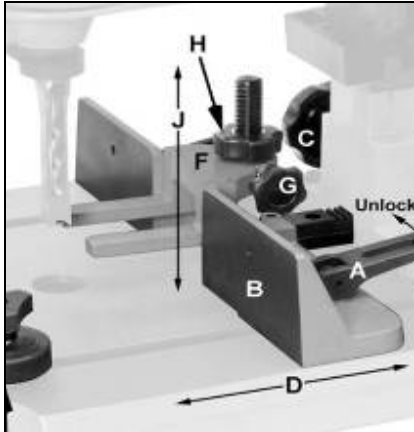

Fig 7
Use the adjust knobs (C) and the quick cam locks (A) to adjust the work piece fence (B, Fig7).